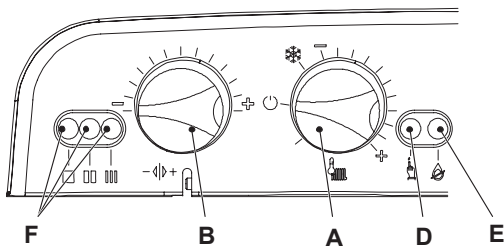

Figure 8.12
- 3 Position the function selector A as in Figure 8.12 and disconnect the C.H. temperature probe Figure 8.6.
- 4 Keep pressed the reset button D for about 10 seconds (Figure 8.12) until the lock-out signal lamp E blinks.